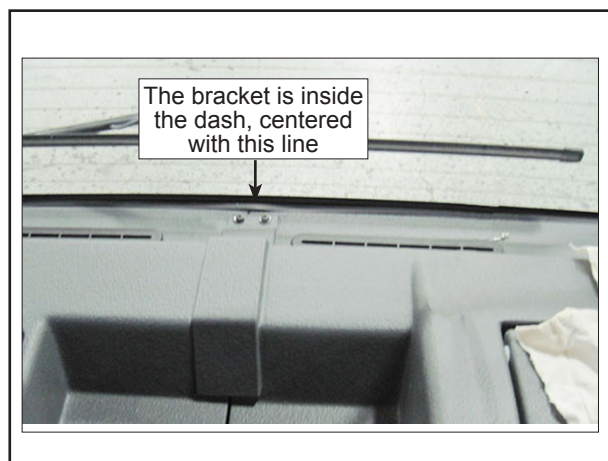
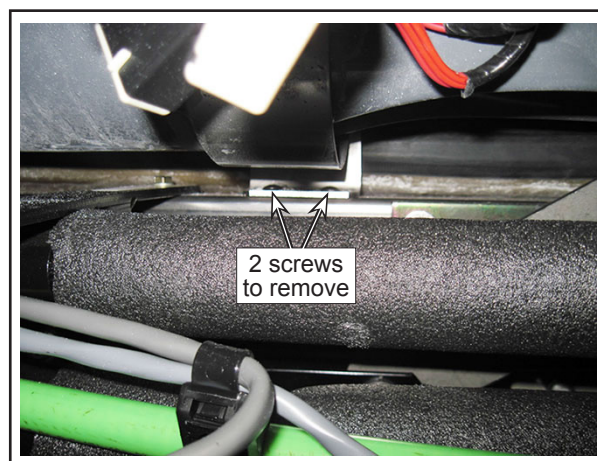

Figure 10 - Bracket Location
Figure 11 - Bracket Under the Dash
- 2.9. Under the dash, in the middle section (Figure 10), remove the two screws that fasten the bracket to the structure (Figure 11).